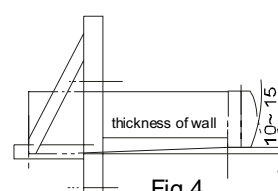
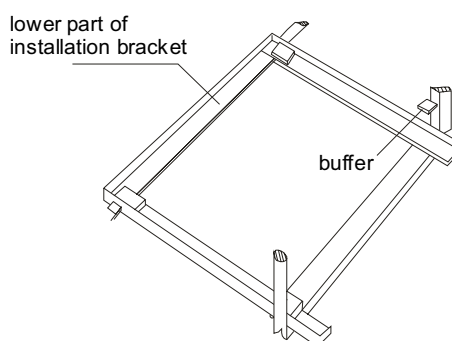

Fig.4
Fig.6
- The metallic installation bracket should be constructed as fig.4.
- Put the buffers on the installation bracket as shown in Fig.6. Adjust the appliance as shown in Fig.4. The leveling pads are employed to tilt the appliance in order that the indoor side is about 10~15 mm higher than the outdoor side for fear the condensate overflow into the room.